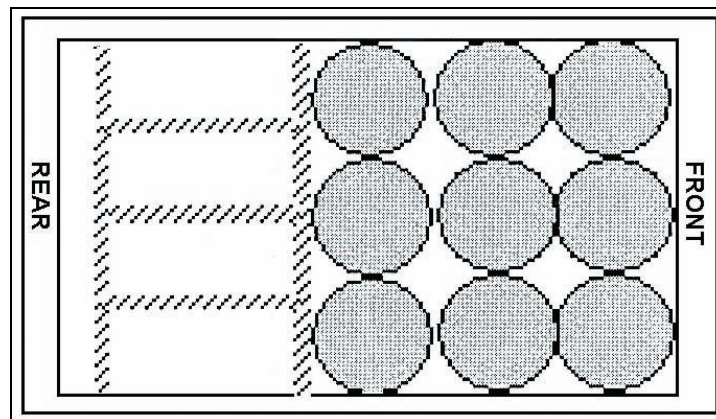
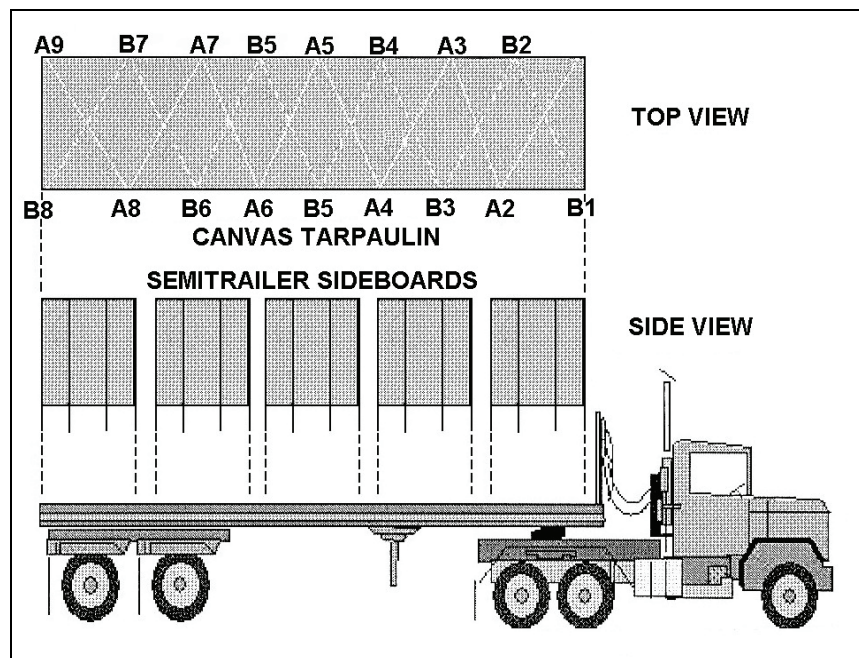

Figure 3-28. Blocking and Bracing
Figure 3-29. Load Lashing Sample
3. Secure general cargo to bed of 5-ton cargo truck using web tiedown straps (see Figure 3-28 and Figure 3-29).